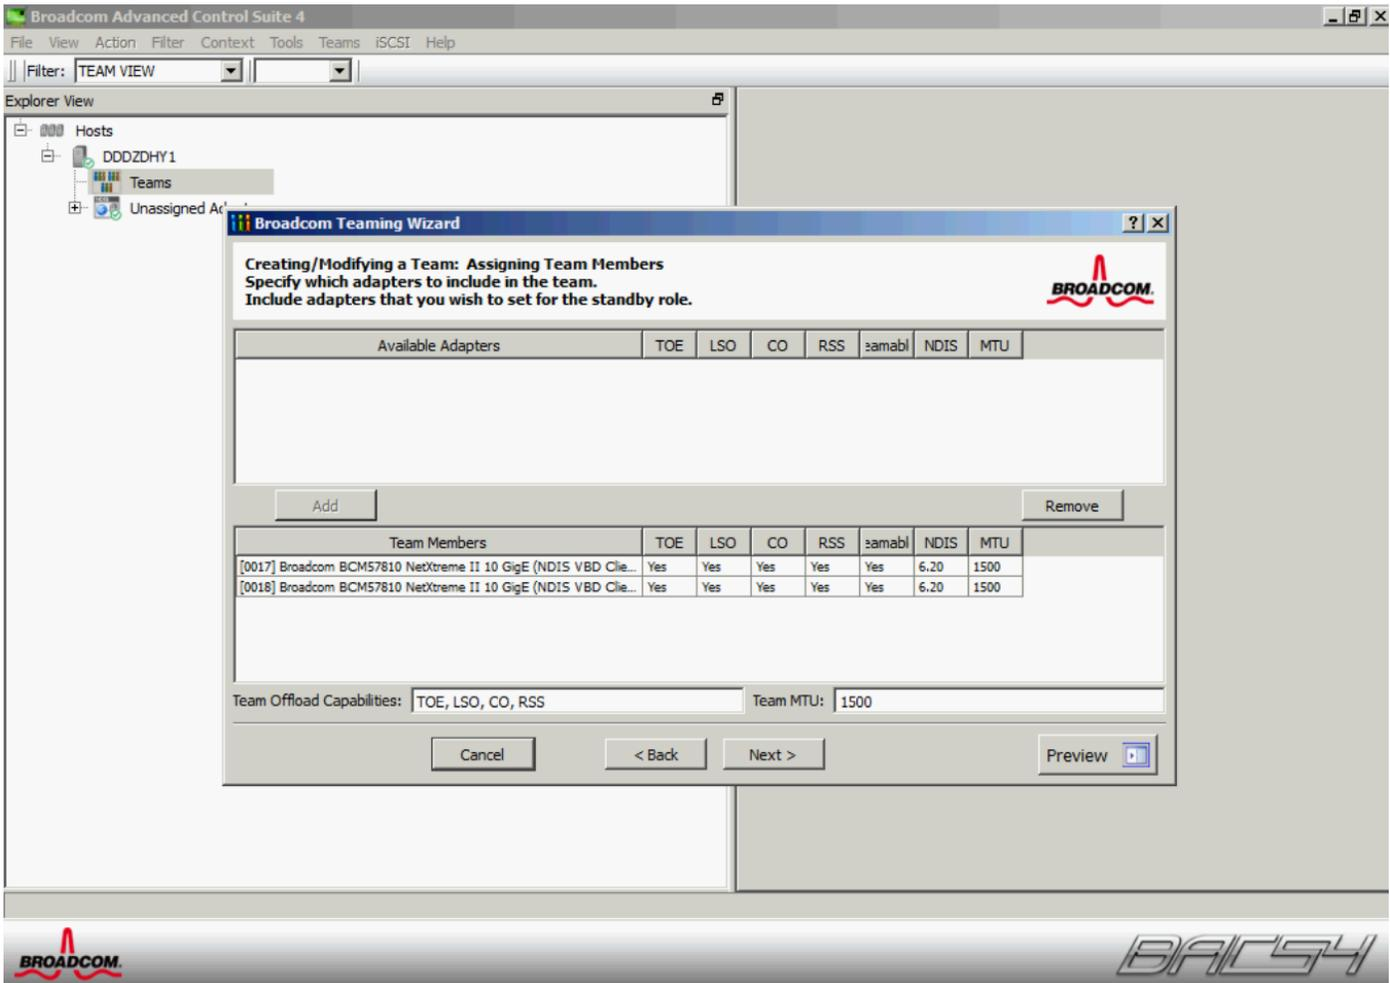

Figure 16 Broadcom teaming wizard port selection dialog for NIC teaming
- Select one of the adapter ports to NIC team and click the **Add** button, repeat this for the second port. Both ports should now be listed under **Team Members** (Figure 16). Click **Next**.